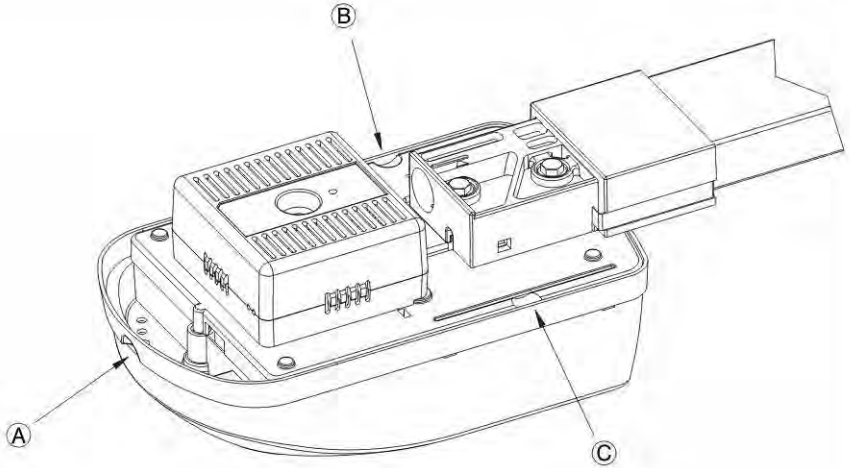

Fig 16
- ii. open the Courtesy Lamp cover by pulling it down at the finger recess point (Fig.16–A).
- iv. remove the Control Box cover by pulling first outwards and then downwards at the finger recess points (Fig.16-B & C).
- The Dip Switches located on the Control Board (Fig.16) enable or disable specific functionality